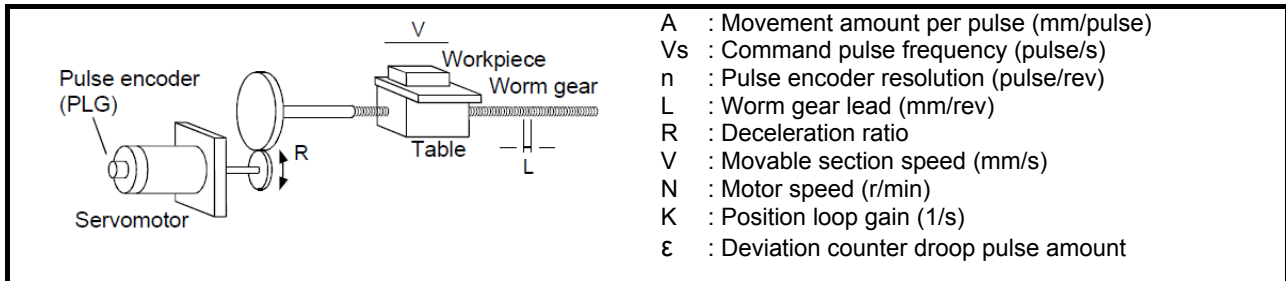

Fig. 1.1 System using worm gears
- (a) In the system shown in Fig. 1.1, the movement amount per pulse, command pulse frequency, and the deviation counter droop pulse amount are determined as follows: